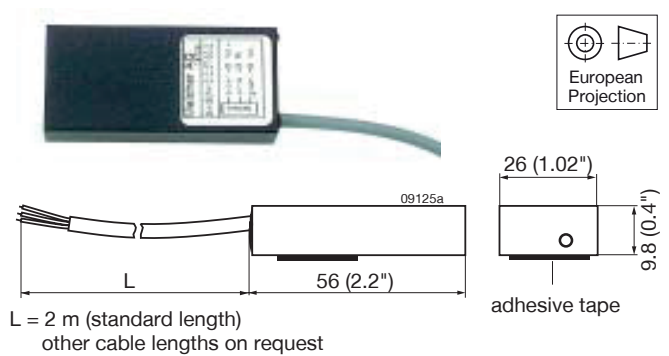

Fig. 49
- Different battery sensors S-KSMH... for using the converter as a battery charger. Different cell characteristics can be selected; see fig. 49, table 24, and *Battery Charging/ Temperature Sensors*.